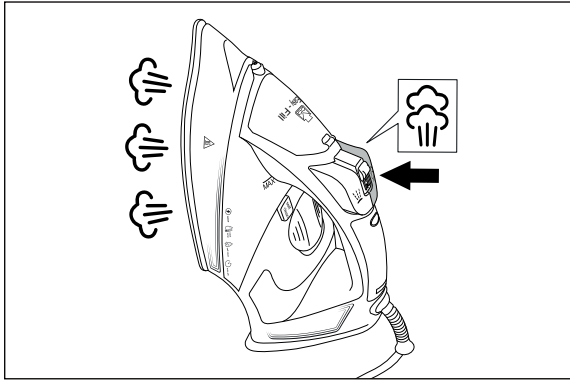

Fig. 7
- 4) Briefly press the steam blast button  **4** several times at intervals of approx. 5 seconds (see Fig. 7).